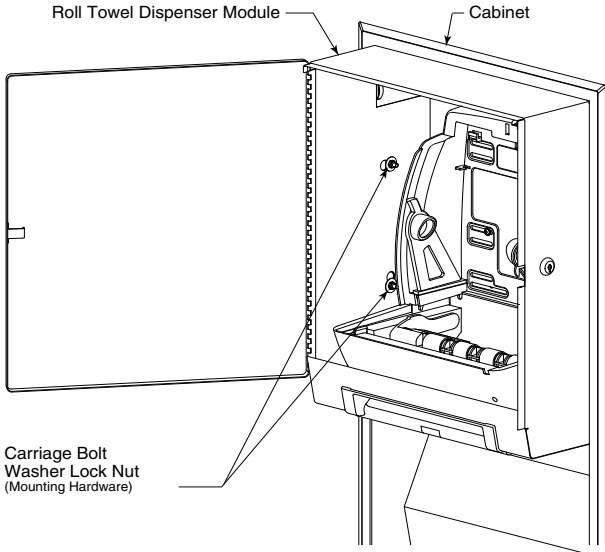

Figure 1
3. Loosen but do not remove the Washer Lock Nuts located on the left and right sides of the Modular Housing Assembly until the Carriage Bolt can be moved. The Hex Lock Nut should not be removed from the Carriage Bolt, ensuring that the Carriage Bolt will not fall into the wall cavity. (See Figure 1)